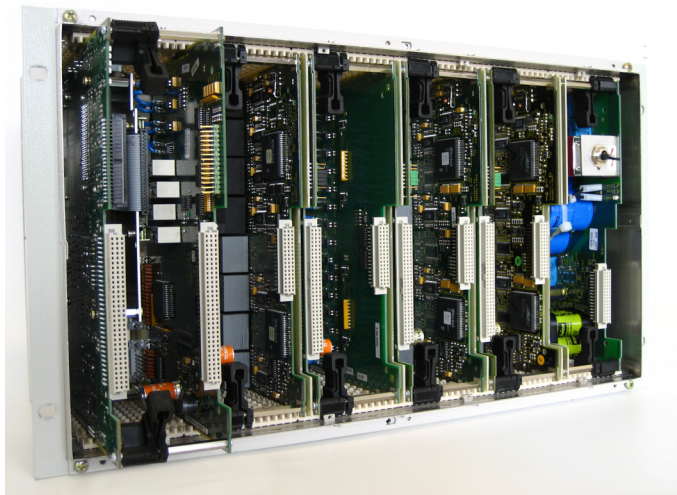

Figure 3-8 Pulling the CPU module out (view with 2.5" flash disk on CPU module)
- Pull the CPU module forward (see Figure 3-8).